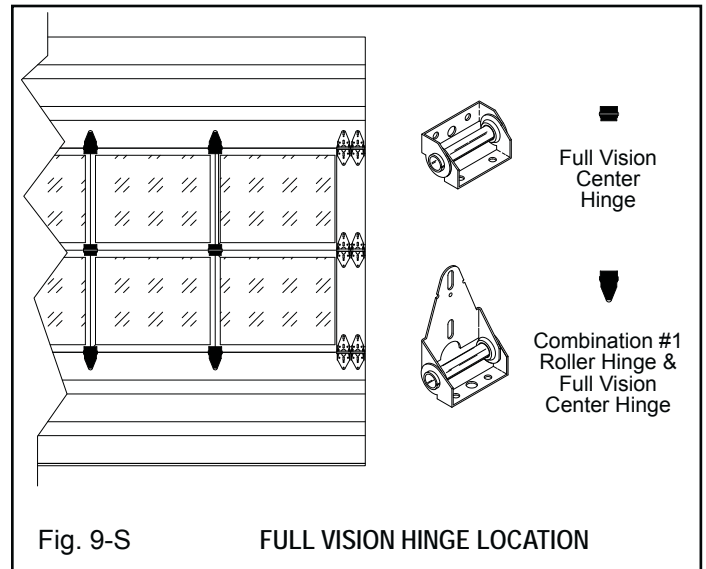

Fig. 9-S
If your door has been furnished with one or more full vision sections, please refer to Fig. 9-S for identification of the special hinge parts which must be used.
Refer to Fig. 9-S for identification of proper center hinges and the positions in which they are to be installed. Note that the #14 x 3/4" [6 mm x 19 mm] self-drilling screws are used to attach the center hinge to the bottom rails and the 1/4" x 3/4" [6 mm x 19 mm] hex bolts and 1/4" [6 mm] hex nuts are used to attach the center hinge to the fin of the upper rail. (Fig. 11-S) Special attention must be given to this step of the procedure since proper placement of hinges is critical to installation of the door.
Step 6: Final Adjustment. Attach spring bumpers. (Fig. 9-T) Position bumpers so that door clears opening and the top of the door rests against the bumpers. Drill in place. Use 5/16" x 1" [8 mm x 25 mm] hex head bolts to fasten to track. Refer to "Final Adjustment and Maintenance" for additional instructions.